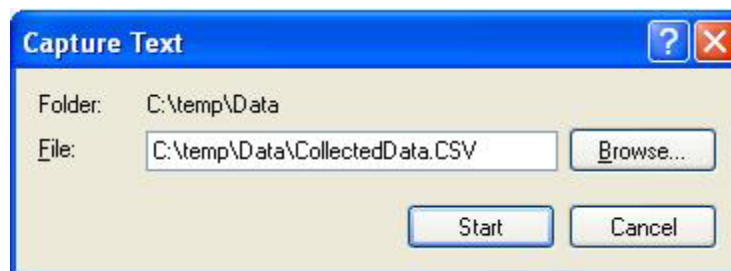

Figure 22 - Specify Data Capture File
6. Enter the path and name of the file you wish to create, either directly or with the Browse button then click on the Start button (see Figure 22).